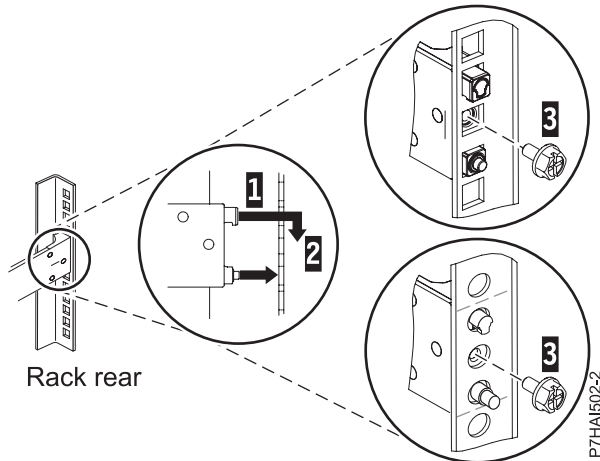

Figure 5. Aligning and engaging the pins into the holes in the rear of the rack
2. Remove the screw from the end of the rail (**3**) as shown in Figure 5 on page 7.
Note: The pin fixtures of the slide rails support either round-hole or square-hole rack models, as shown in Figure 5.